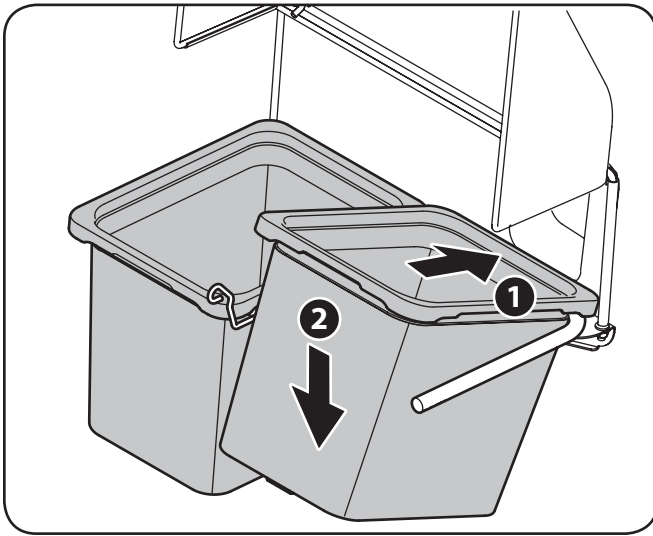

Figure 4-5
6. Install the bags onto the mounting frame as shown in Figure 4-5. Simply place the leading edge of the bag onto the front frame rail, then rock the bag backwards and down into place. Repeat for the second bag.